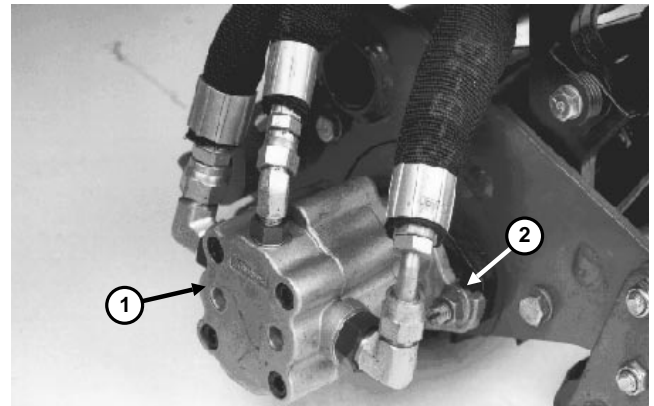

Figure 18
3. Loosen reel motor mounting nuts (Fig. 18). Rotate the motor clockwise so motor flanges clear studs and pull motor off of cutting unit.